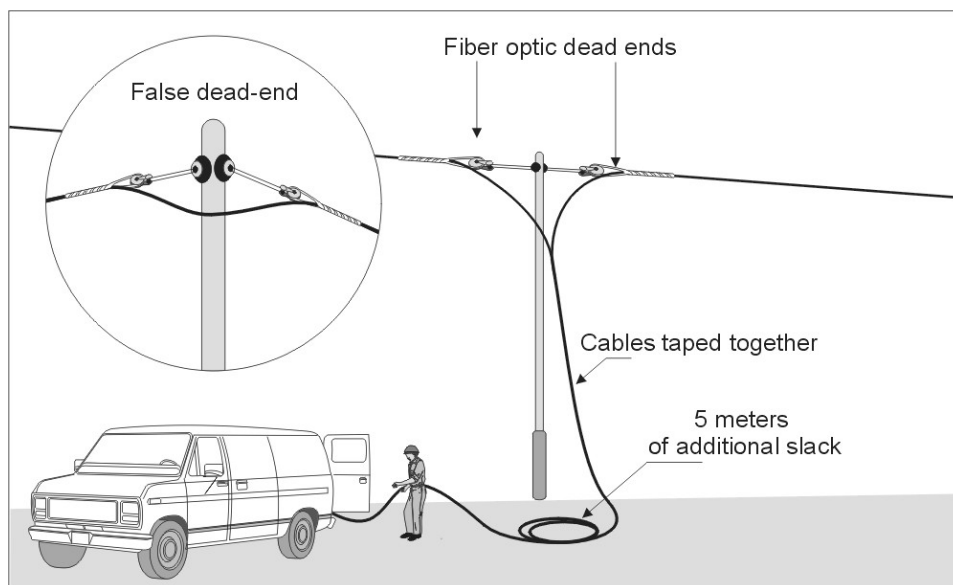

Figure 3: Dead-ends are needed for line offsets more than 20°
- The amount of slack cable left at each splice point must be sufficient to reach from the pole's height to the planned splicing vehicle location on the ground. An additional 5 meters should be added onto this length to allow for closure requirements (Figure 3). This slack should be allowed for when planning the route and ordering cable. Leave sufficient slack at each future drop point to allow for splicing.
- Line offsets >20° (horizontal and/or vertical) or at the ends of the cable require dead-ends (see Figure 3).